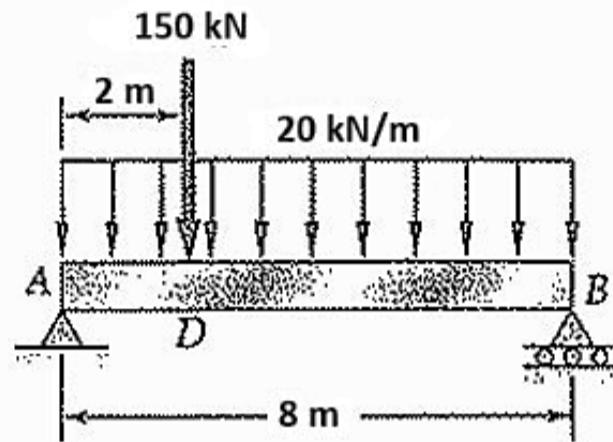

Fig. 5
6. Determine the slope and deflection at D for the beam loading shown in Fig. 5. Take flexural rigidity of the beam $EI = 100 \text{ MN-m}^2$.